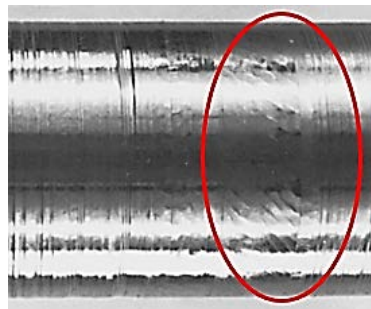

Figure 2 [a]
2. [a] Figure 2 [a] shows the chatter marks on the cylindrical metal part due to the uncontrolled vibration during the machining process. Suggest and explain FOUR (4) solutions that can be taken to avoid this defect.
- [b] Figure 2 [b] shows the graph of cutting speed against (i) cost/piece and (ii) time/piece in the machining of automotive engine valve. Given a_c , b_c , c_c , d_c and e_c represents the costs to determine the optimum cutting speed, while a_t , b_t , c_t and d_t represents the time to determine the optimum cutting speed.
- (i) In this machining of engine valve, the labor rate is RM 20.00 per hour and the general overhead rate is RM 13.50 per hour. The tool is cast alloy ($n = 0.15$) with six faces and costs RM 35.50, which take seven minutes to change and two minutes to index. From Figure 2 [b] (ii), if the maximum cutting speed at point $x_t = 194.56$ m/min is twice the optimum cutting speed for maximum production, calculate the tool life constant value for this machining process.